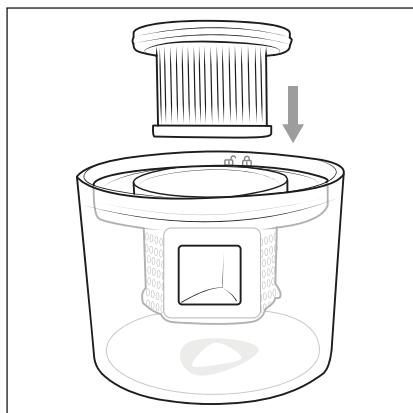

Fig. 8
- 7) Insert the HEPA filter ⑤ into the dust filter ⑥ (Fig. 8).